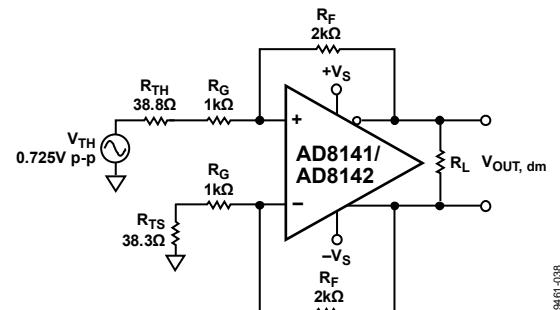

Figure 40. Thevenin Equivalent and Matched Gain Resistors
1. $R_{TH} = R_S||R_T = 38.8 \Omega$, and $R_{TS} = 38.3 \Omega$. Note that V_{TH} is greater than 0.7 V p-p, which was obtained with $R_T = 75 \Omega$ alone. The modified circuit with the Thevenin equivalent of the terminated source and R_{TS} in the lower feedback loop is shown in Figure 40.
Figure 40 presents a tractable circuit with matched feedback loops that can be easily evaluated.